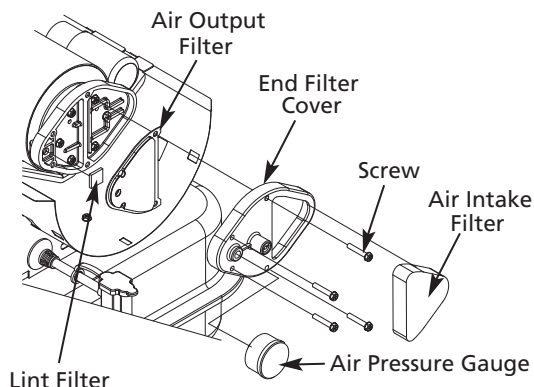

Figure 14 - Filter Assembly
- Remove upper shell and fan guard (See Air Intake Filter Figure 14).
- Turn nozzle adaptor 1/9 turn(40°) to counter clock wise and pull toward motor to remove. (See Figure 14)